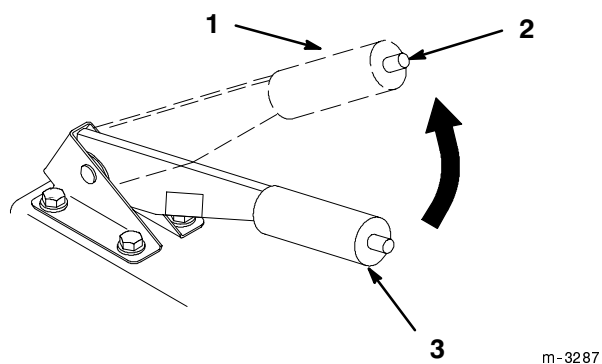

Figure 8
2. Pull up on the parking brake lever to set the parking brake (Fig. 8). The parking brake lever should stay firmly in the “SET” position.
1. Push in on the button and lower parking brake lever to “OFF” (Fig. 8).